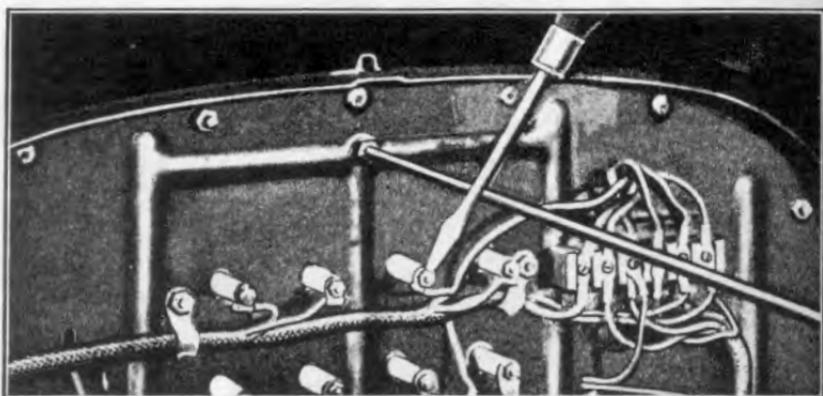

Fig. 503
- 1003 If no spark occurs when the above test is made, again hold the spark plug wire approximately  $\frac{1}{8}$ " away from the engine, at the same time shorting the commutator terminal of the missing cylinder at the coil box by placing a screw driver on the terminal and resting it against the radiator stay rod (See Fig. 503). (The commutator ter-